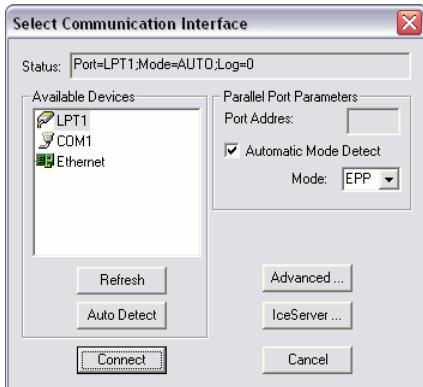

FIGURE 4 Selecting communication parameters manually.
- **The Specify Connection Port and Parameters method** allows you to modify the default connection parameters, such as the port, mode or port address, depending on the current emulator type. See Figure 4.